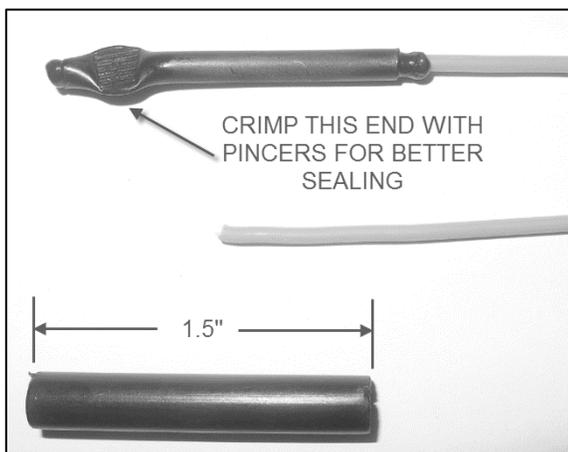

FIGURE 11
29. Cut the existing wire F55 to remove terminal and seal wire with shrink tubing as shown in Figure 11.
31. Cut the existing wire 00A to remove terminal and seal wire with shrink tubing as shown in Figure 11.